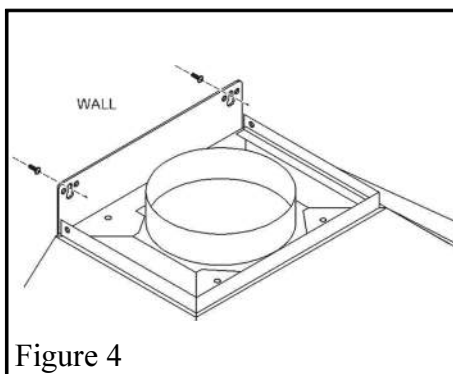
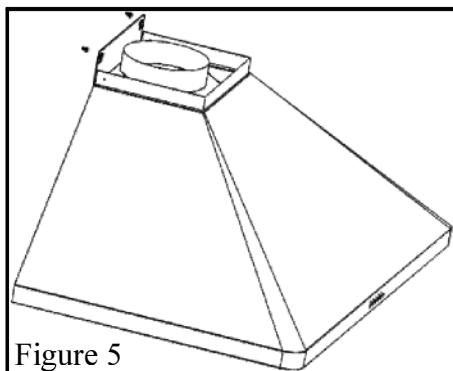

Figure 4
Figure 5
4. Align hood-mounting bracket to the screws on the wall and hook hood into place as shown in Figure 4 and Figure 5. Tighten screws to secure hood to the wall.